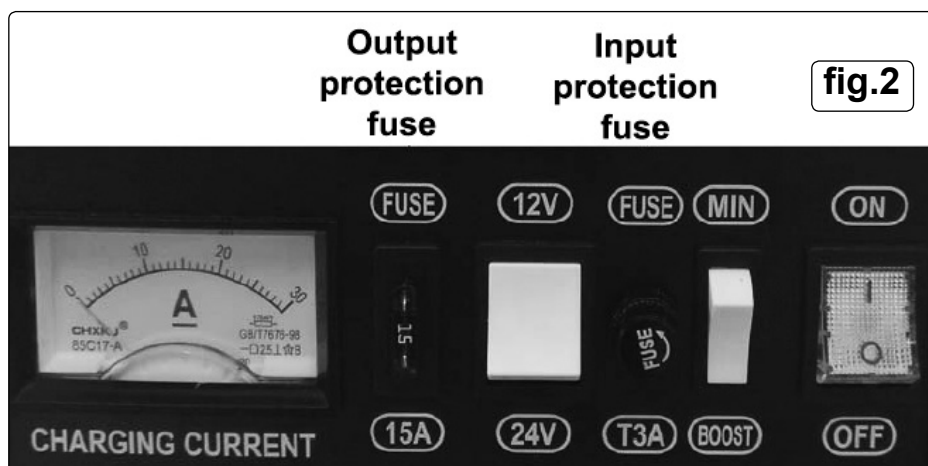

fig.2
4.3.3. If a boost charge is required, ensure that an initial charge has built up first before moving the Charge Rate rocker switch to 'BOOST', see fig.2.